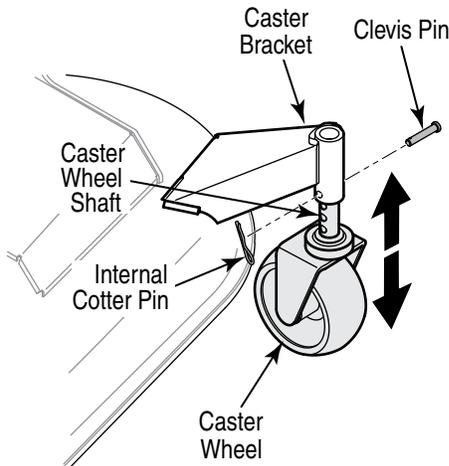

Figure 17
- Working at the front caster wheel on either side of the deck, remove the internal cotter pin from the clevis pin securing the caster wheel shaft in the caster bracket. See Figure 17.
- Slide the caster wheel shaft up or down in the caster bracket to the desired height setting and align the index hole with the hole in the castor bracket. See Figure 17.